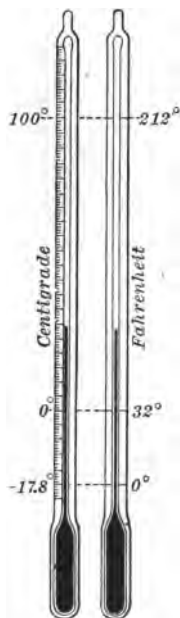

FIG. 145.—Centigrade and Fahrenheit scales.
**165. Centigrade and Fahrenheit scales.** In England and in North America a scale devised by **Fahrenheit** is in common use. On this scale the freezing point is marked 32 degrees ( $32^{\circ}$ ) and the boiling point  $212^{\circ}$ , so that the space between the freezing and boiling points is divided into 180 divisions (Fig. 145). Since 100 divisions on the Centigrade scale are equivalent to 180 divisions on the Fahrenheit scale, one division Centigrade is equivalent to  $\frac{9}{5}$  divisions Fahrenheit. To change a temperature expressed on the Centigrade scale to the Fahrenheit scale, we have only to multiply by  $\frac{9}{5}$  and add  $32^{\circ}$ . For example : —